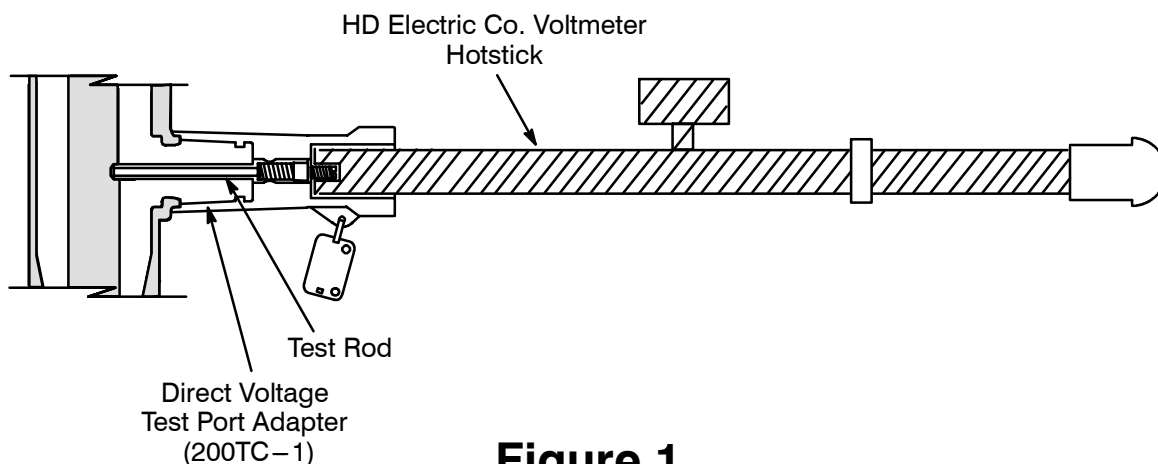

Figure 1
4. Using HD voltmeter hotstick tool, insert test rod of direct voltage test port adapter into elbow access port ensuring the direct voltage test port adapter is fully seated (See Figure 1).